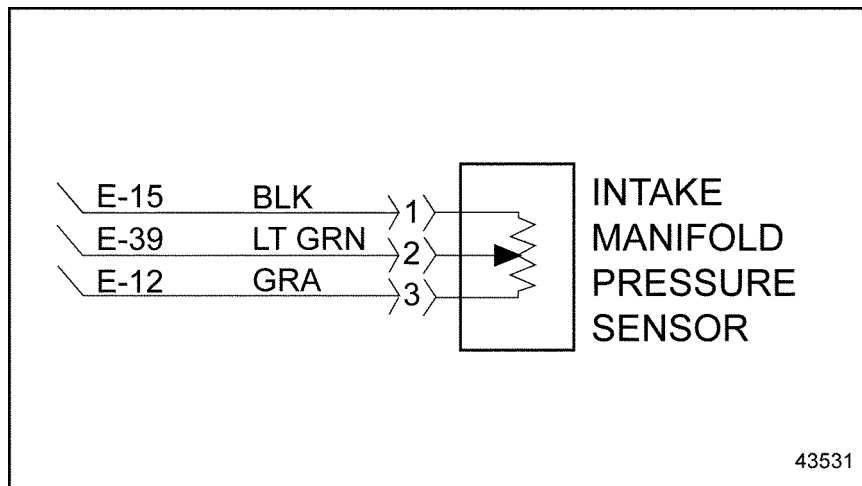

Figure 37-4 Turbo Boost/Intake Manifold Pressure Sensor
- 4. Check terminals at the ECM/ECU harness connector (both ECM/ECU and harness side) for damage: bent, corroded, and unseated pins or sockets. See Figure 37-4.
2. Measure resistance between pins 1 and 3 on the TBS/IMP Sensor harness connector. See Figure 37-4.
4. Check terminals at the ECM/ECU harness connector (both ECM/ECU and harness side) for damage: bent, corroded, and unseated pins or sockets. See Figure 37-4.
5. Check terminals at the ECM/ECU harness connector (both ECM/ECU and harness side) for damage: bent, corroded, and unseated pins or sockets. See Figure 37-4.